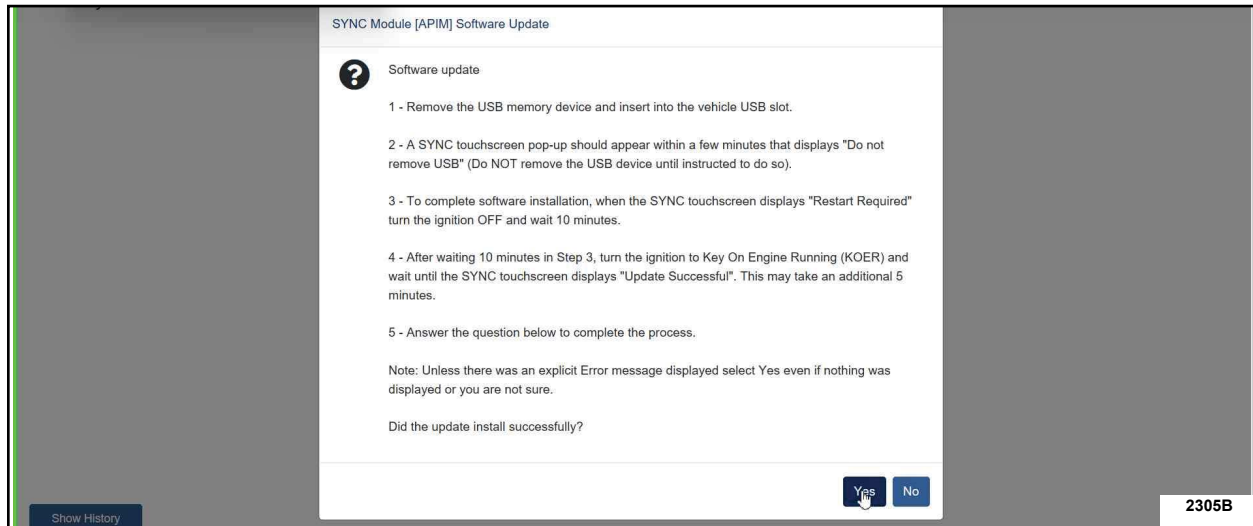

FIGURE 6
37. Return the USB thumb drive to the FDRS and follow the on-screen prompts carefully until the following screen is reached. See Figure 6.